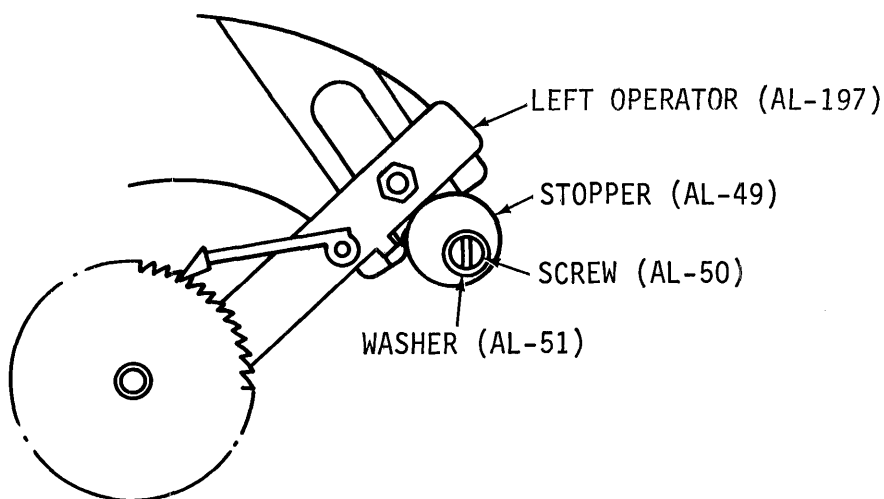

Figure 5-18. LEFT OPERATOR AND STOPPER ADJUSTMENT
2. Left Pawl Operator Adjustment (AL-197) (Fig. 5-18)